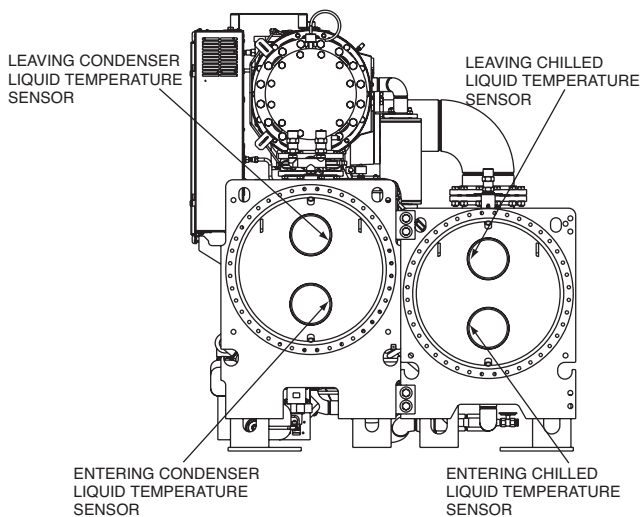

Fig. 14 — Chiller End View
- b. Entering and leaving chiller liquid temperature sensors. See Fig. 14.